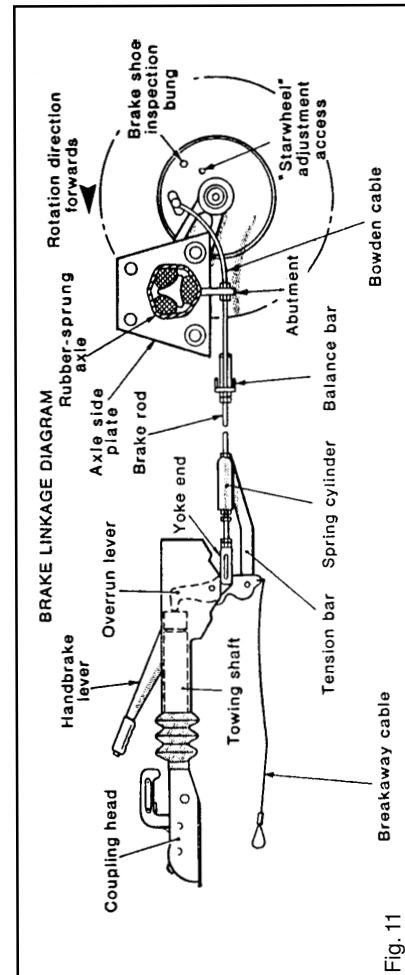
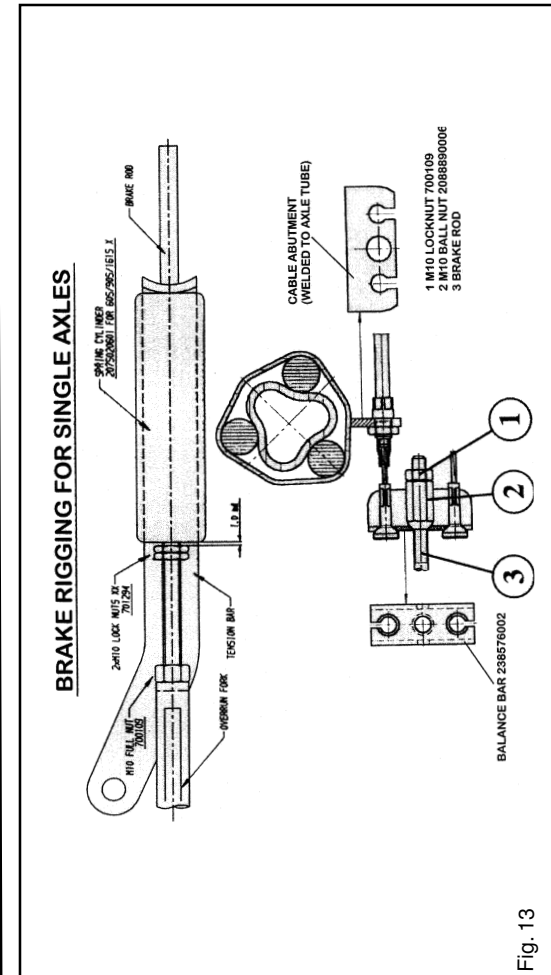

Fig. 11
Fig. 13
10. Ensure the balance bar (compensator) is being pulled evenly (Figs. 11 & 13). Excessive movement to this bar (double on tandem axles) would indicate possible incorrect adjustment (if appropriate, repeat step No. 7 - Fig. 13).
12. Remove the slack in the brake rod by adjusting the long ball nut, rear of the balance bar, ensuring the overrun lever makes contact with the end of the towing shaft. Note! Over adjustment to the long ball nut (Fig. 13/Item 2) could induce movement of the inner brake cable, reducing the effective clearance of the brake shoes. If the overrun lever will not make contact, it is possible the two lock nuts, forward of the spring cylinder, are incorrectly adjusted. Loosen the nuts and adjust brake rod as above (Figs. 11 & 13).
13. Adjust the two locking nuts, forward of the spring cylinder (Fig. 11), (on some chassis a single Nyloc nut is used) to give 1 mm of clearance on the spring cylinder. This cylinder (the energy store for the handbrake operation) must be able to rotate ONLY, not slide on the brake rod. (Fig. 13). (If the overrun assembly is fitted with a gas